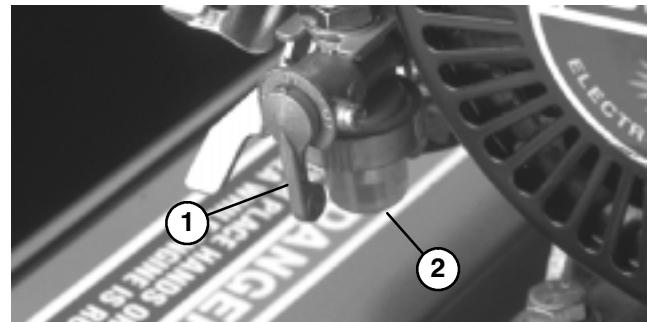

Figure 32
1. Close fuel shut off valve and unscrew bowl from filter body (Fig. 32).